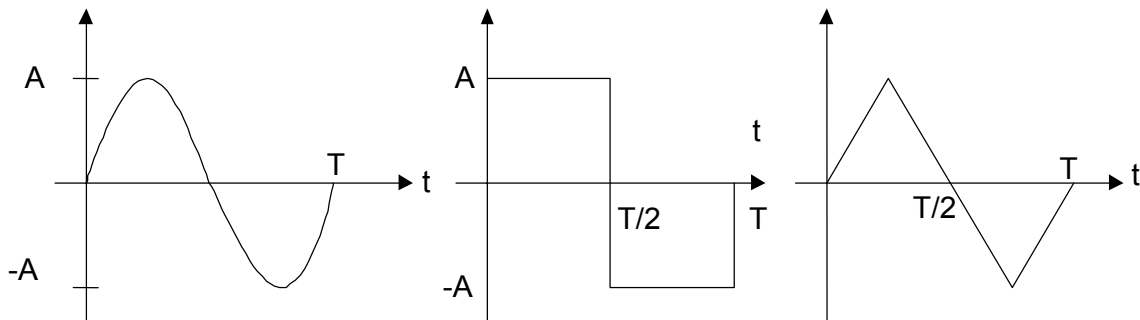

Figure 1
- 4- Adjust the DC offset of the signal generator to zero, so that the signal you obtain on the oscilloscope has no DC value (similar to the signals of Figure 1). This is done by first setting the oscilloscope control to ground then moving ground level to the middle of the screen).